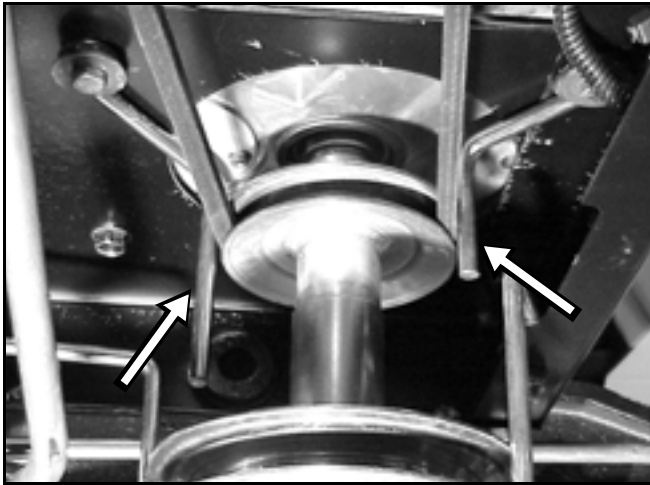

Figure 123
4. Loosen the right and left belt guides located around the engine pulley and slip the belt down off the engine drive pulley (Figure 123).